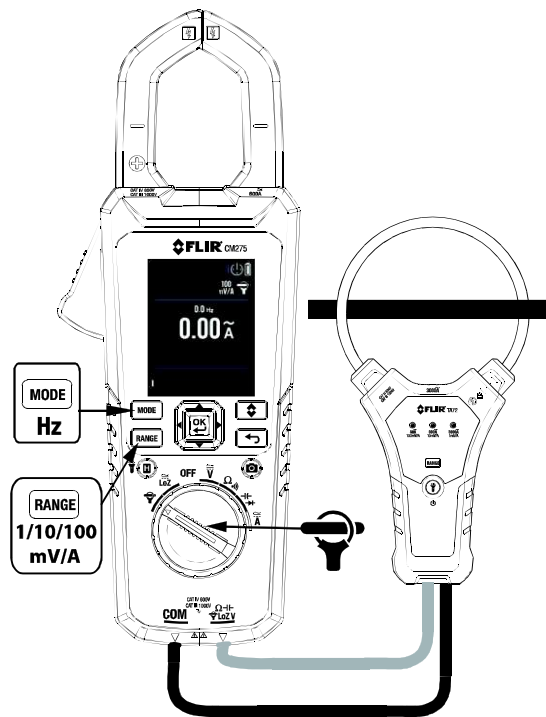

Fig. 9-2 FLEX Clamp Application
5. Press the trigger to open the clamp jaws. Fully enclose one conductor—refer to Fig. 9.2. For optimum results, center the conductor in the jaws.
2. Connect a Clamp adaptor as shown in **Fig. 9-2**.